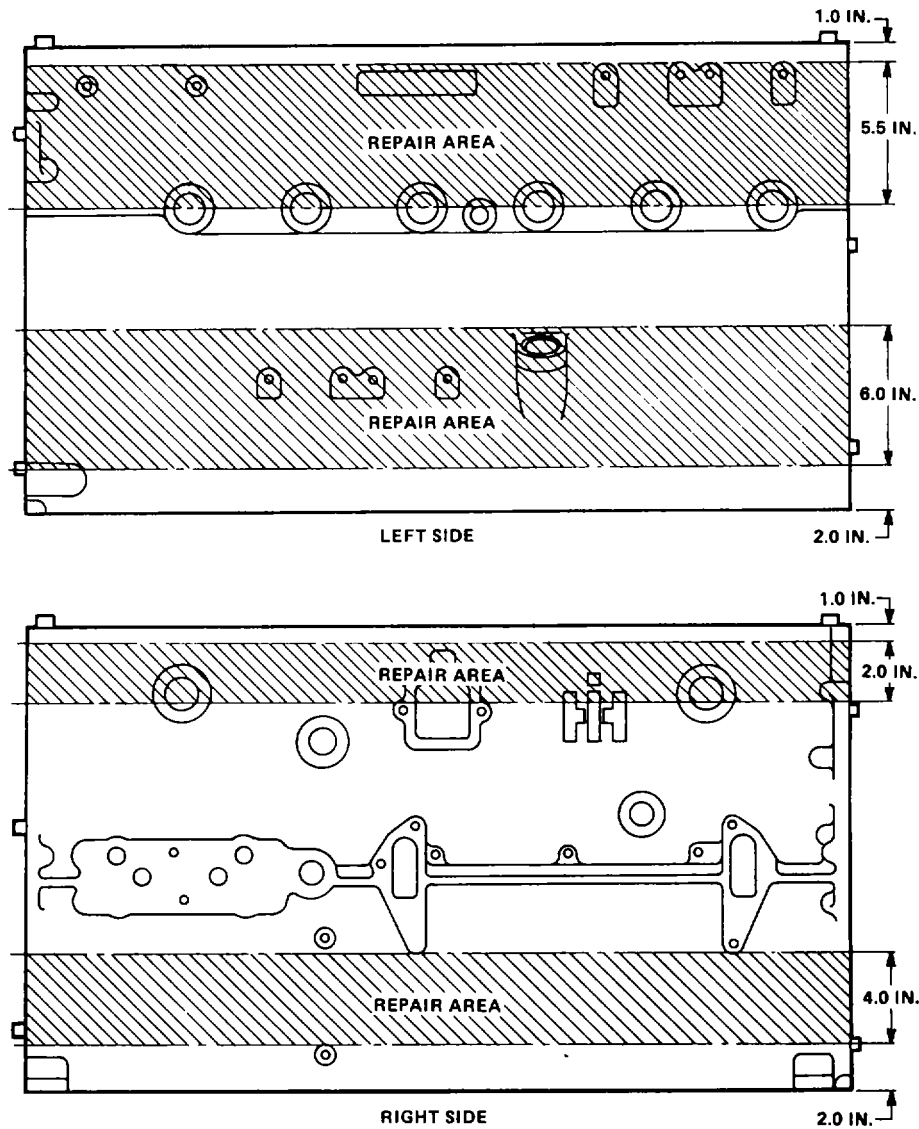

Figure 21B. - Crankcase Casting Leak-Repair Areas
7. Repairs for coolant or oil leaks in crankcase casting can be performed in areas shown in Figure 21B only. Instructions are as follows: